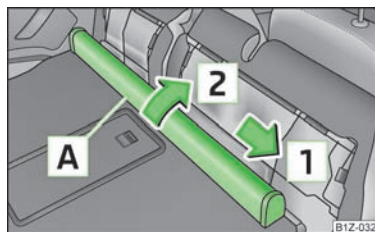

Fig. 61
- > Push the net partition housing **A** » Fig. 61 in the direction of the arrow **1** and remove it from the mounts on the rear seats in the direction of the arrow **2**.
- > Push the net partition housing in the opposite direction of the arrow **1** » Fig. 61 as far as the stop.